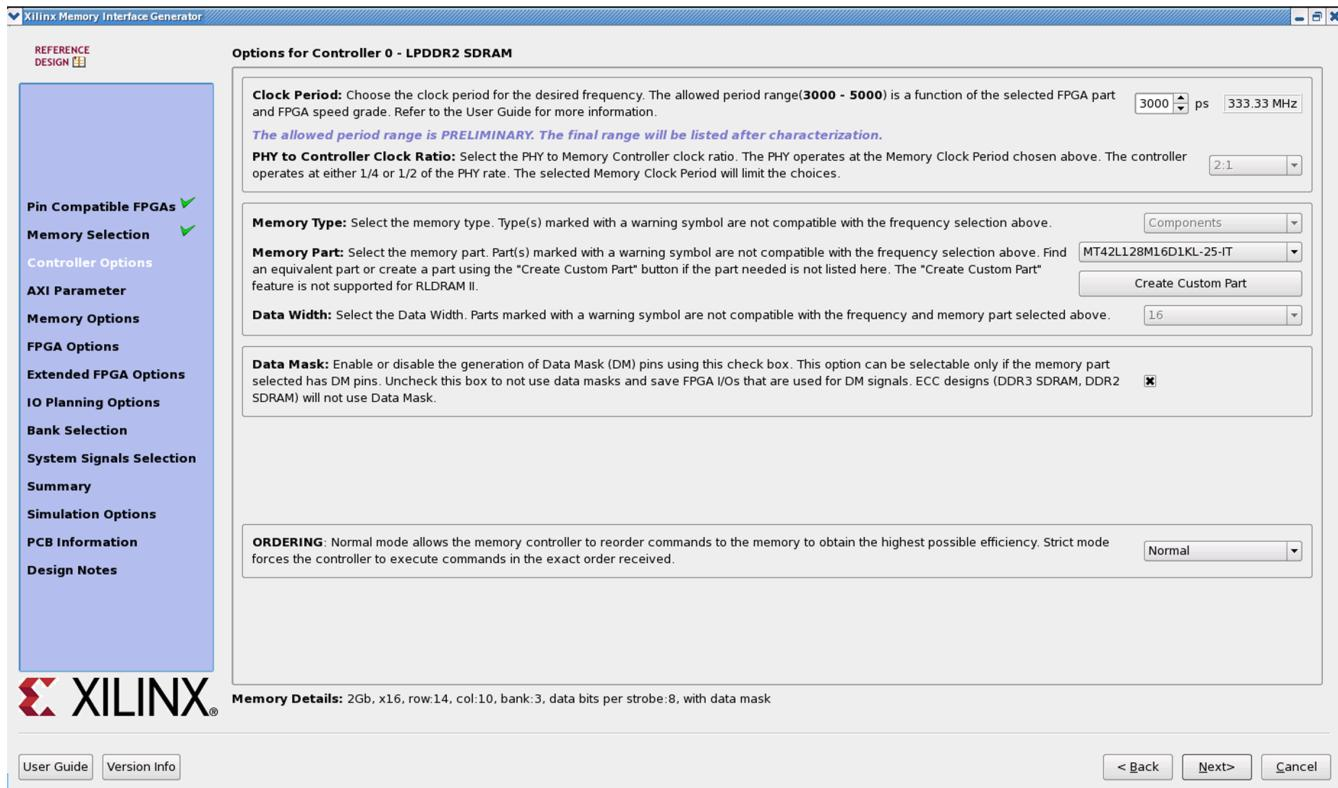

Figure 4-17: Controller Options Page
This page shows the various controller options that can be selected (Figure 4-17).
- **Memory Details** – The bottom of the **Controller Options** page (Figure 4-17, page 519) displays the details for the selected memory configuration (Figure 4-18).